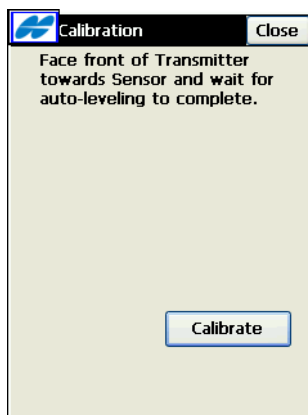

Figure 8-50. Calibrate
- **Calibrate** – press to collect calibration data after the auto-leveling process completes (Figure 8-50).